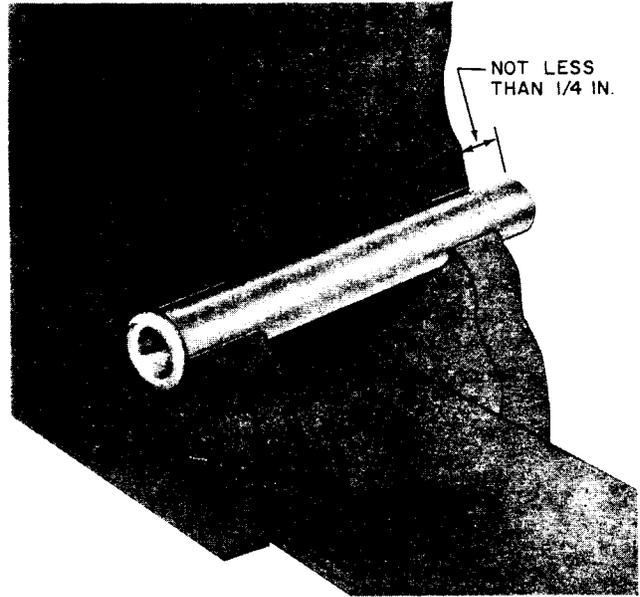

Fig. 18—Placing Tube
13.01 Use plastic tubes at building entrance holes for drop wire where fused protection is required and the wire passes through a flammable surface. Place tube as shown in Fig. 18. Cut plastic tubes with a hack saw or diagonal pliers. Do not use split tubes at entrance holes.